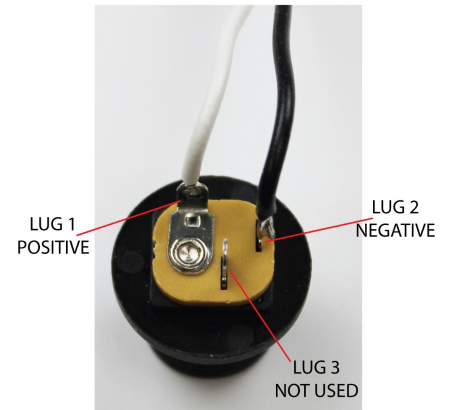

fig 7
- 5) Put the 12mm internal tooth on the power jack and insert the power jack through the hole in the back wall of the box. Place the flat washer and nut on the power jack and tighten the power jack using a 14mm wrench (figures 7 and 9).